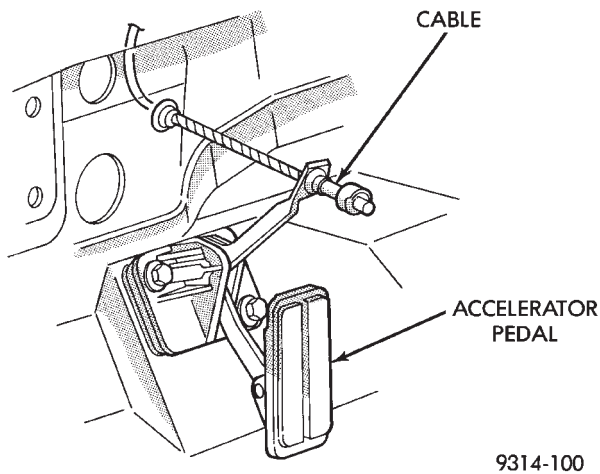
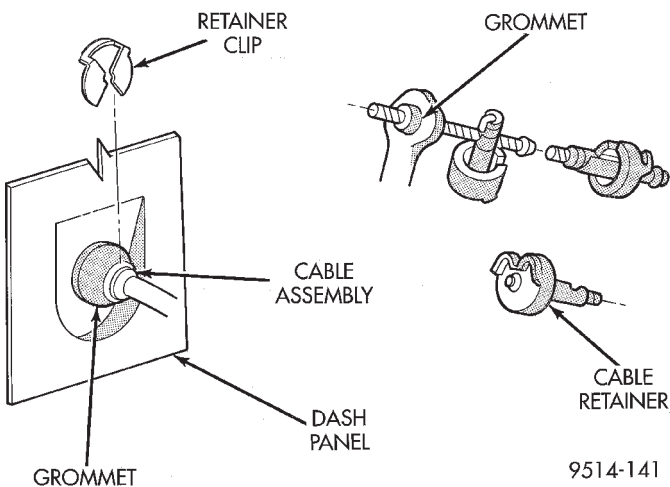

Fig. 29 Accelerator Pedal and Throttle Cable
Fig. 30 Throttle Cable Removal/Installation
(1) Working from the engine compartment, hold the throttle body throttle lever in the wide open position. Remove the throttle cable from the throttle body cam.
(2) From inside the vehicle, hold up the pedal and remove the cable retainer and throttle cable from the upper end of the pedal shaft (Fig. 29) and (Fig. 30).